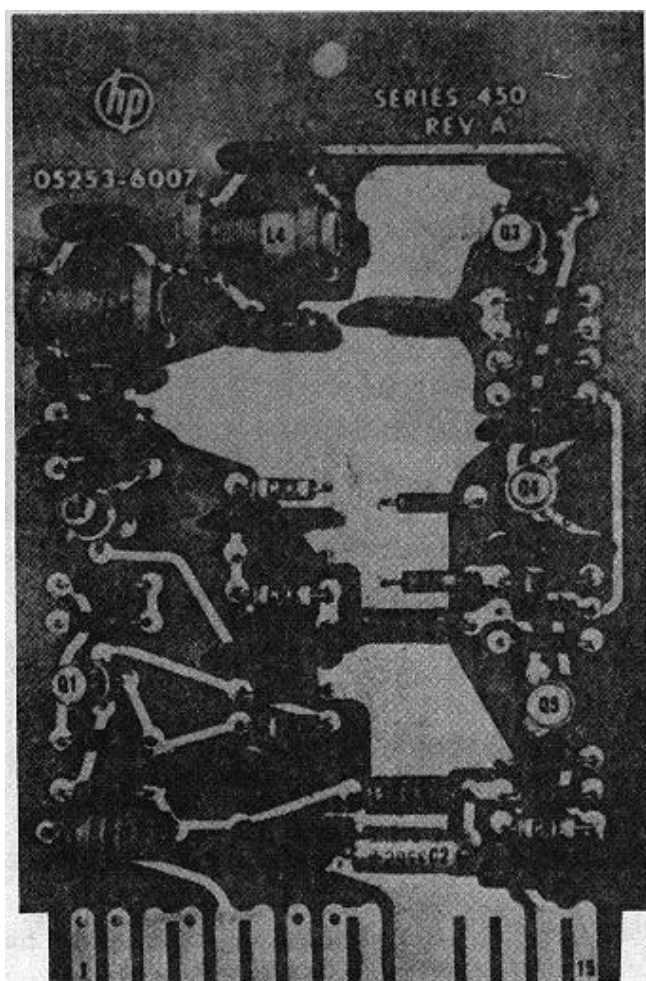

Figure 5-1. Video Amplifier Assembly AI Component Location
f. Using plastic tool, adjust variable inductor AI L4 (see Figures 5-1 and 5-5) for minimum reading of RF Millivoltmeter.